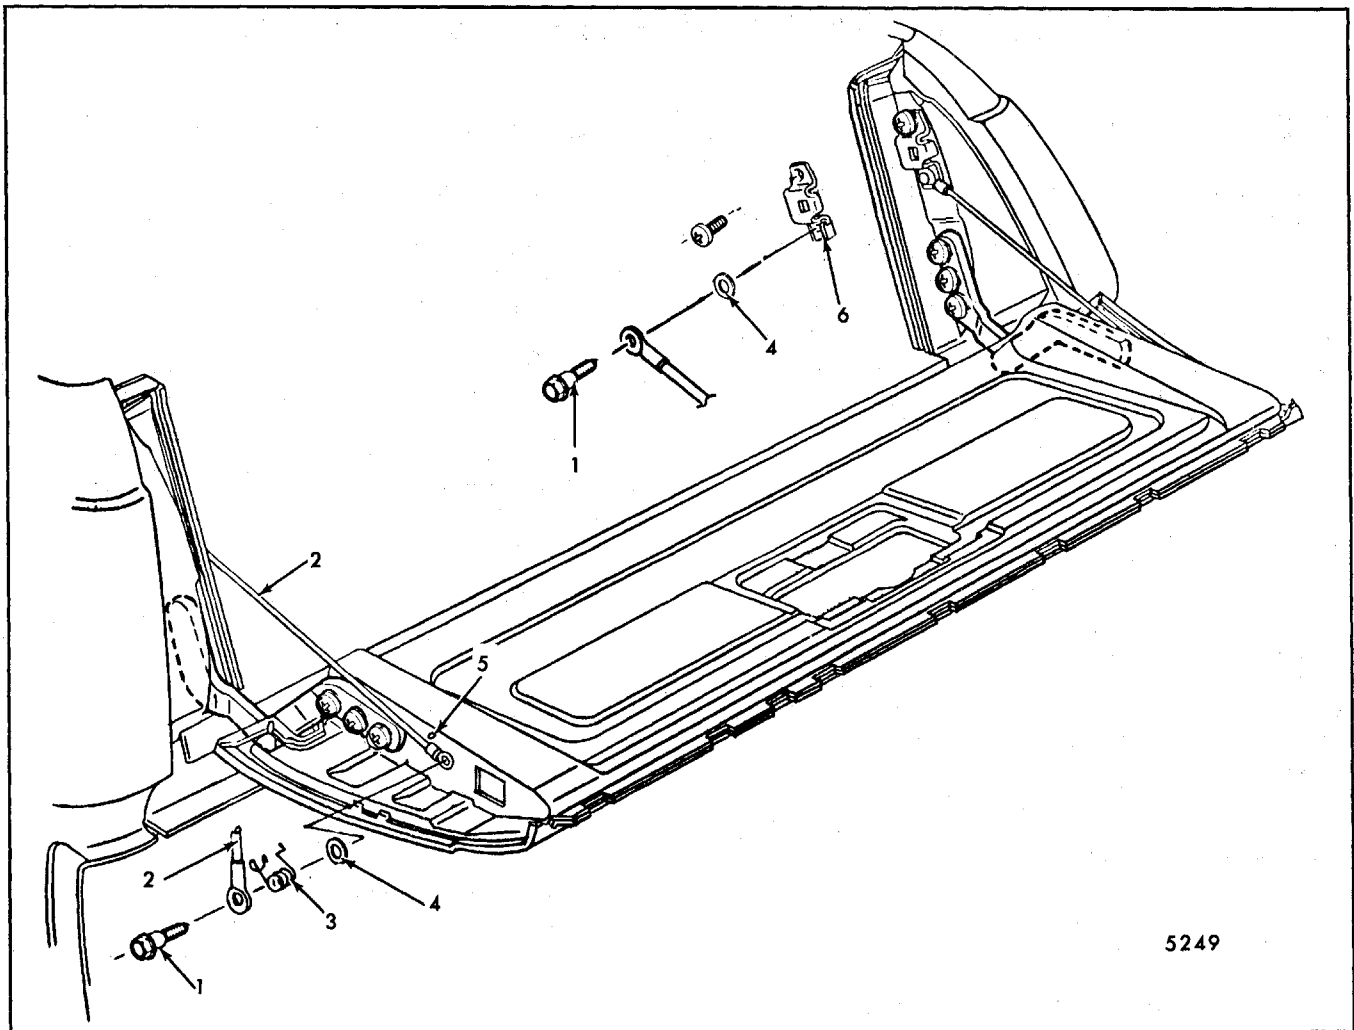

Fig. 7-121-Tailgate Support Cable Attachment
2. Disengage support cable return spring and remove cable attaching bolts on tailgate and body pillar (Fig. 7-121). Remove support cable.
2. Disengage support cable return springs and remove support cable attaching bolts on tailgate (Fig. 7-121).
2. Remove latch striker attaching screws and remove striker from body pillar (Fig. 7-121).